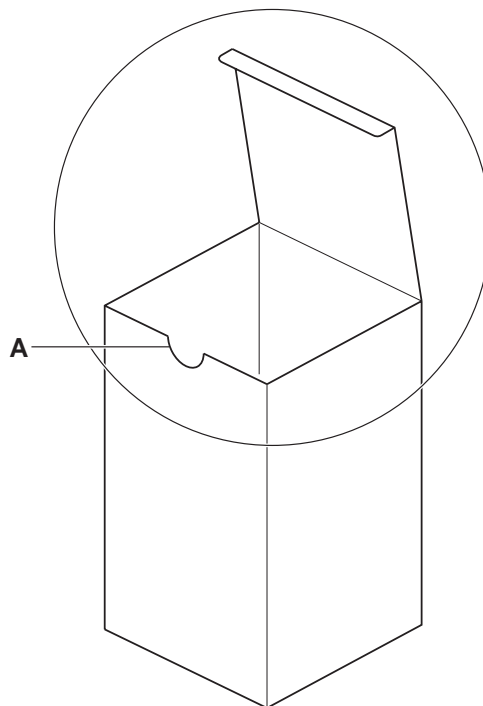

Fig. 7
6 Fig. 7 shows a box to hold chocolates.
- (b) Describe **two** problems with the design of the top section of the box that has been circled in Fig. 7. [4]